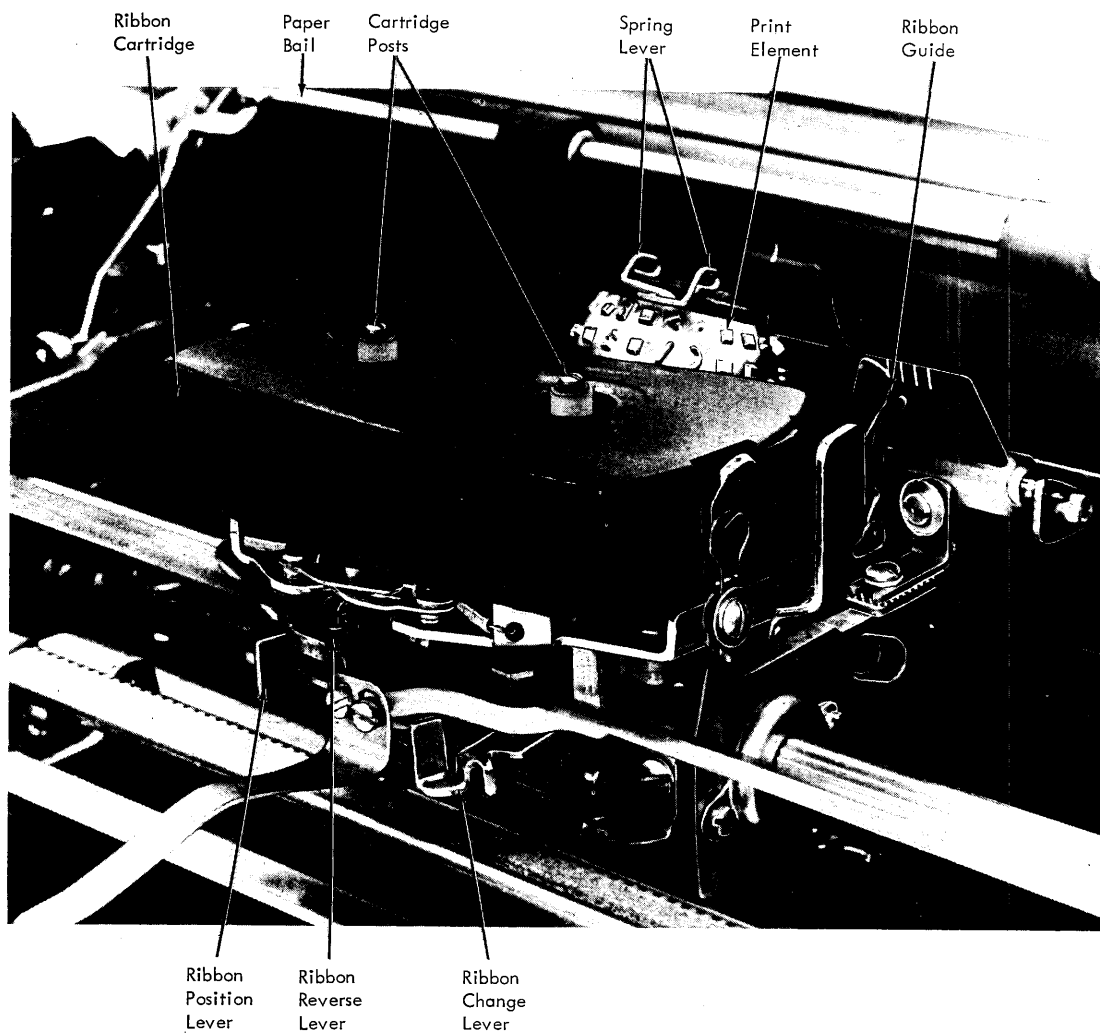

Figure 37. Ribbon Cartridge
3. Move the ribbon change lever to the extreme right to raise the ribbon guide (Figure 37).